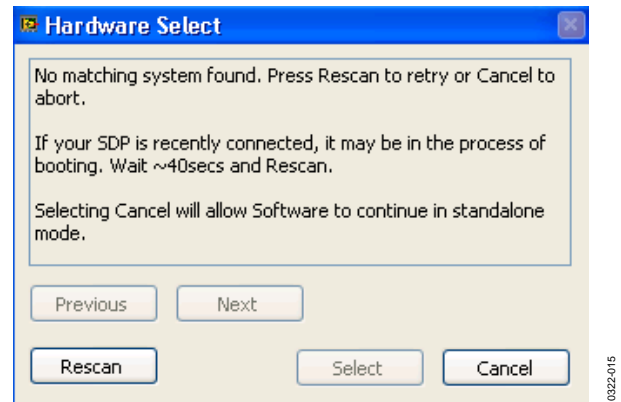

Figure 14. SDP Board Not Connected to the USB Port Pop-Up Window Error
2. If the SDP board is not connected to the USB port when the software is launched, a connectivity error displays (see Figure 14). Simply connect the evaluation board to the USB port of the PC, wait a few seconds, click **Rescan**, and follow the instructions.